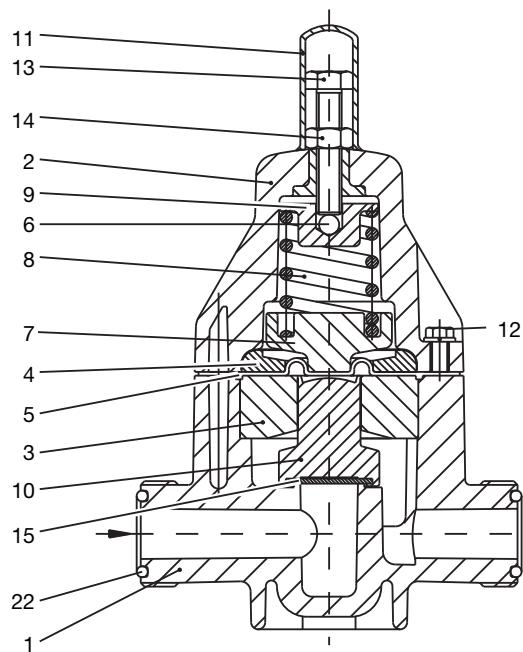

Fig. 4
To disassemble backpressure valve (see Fig. 4):
(see Fig. 4)
* For item numbers see Fig. 4 and 5